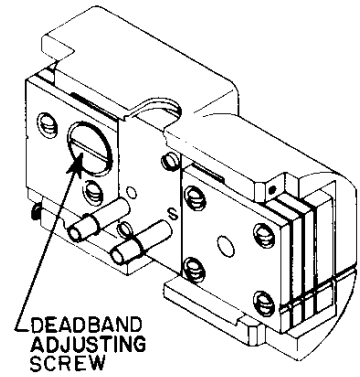

Fig. 3: Back View of T-4054
1. Remove the T-4054 from the mounting bracket and pull it away from the wall so the deadband adjusting screw on the back of the instrument is exposed (see Fig. 3).